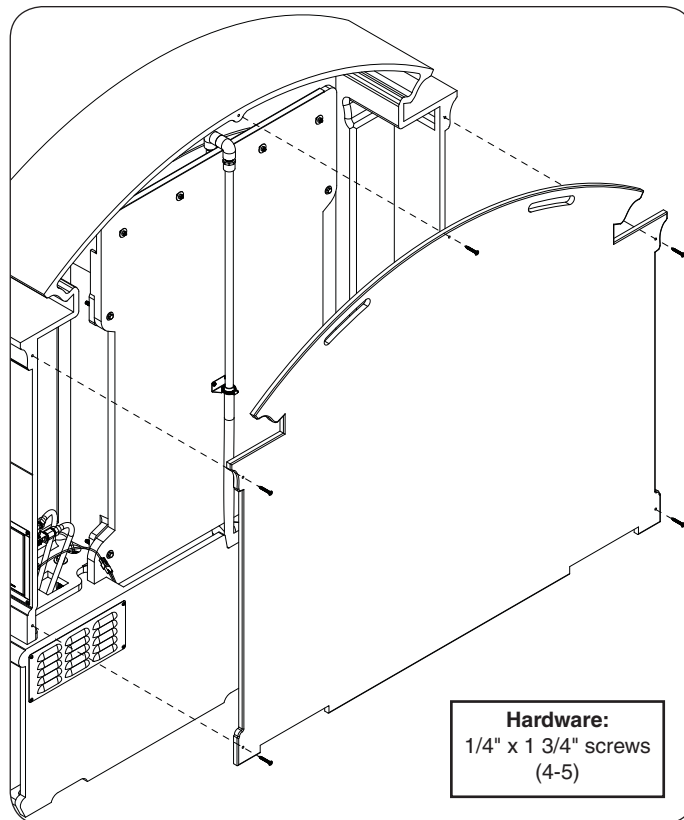

Fig. 26-2 Place outer rear-panel and fasten
4. Use a Phillips screwdriver and the supplied 1 3/4" concrete screws (4-5) to fasten the wall to the unit as shown in Fig. 26-2.